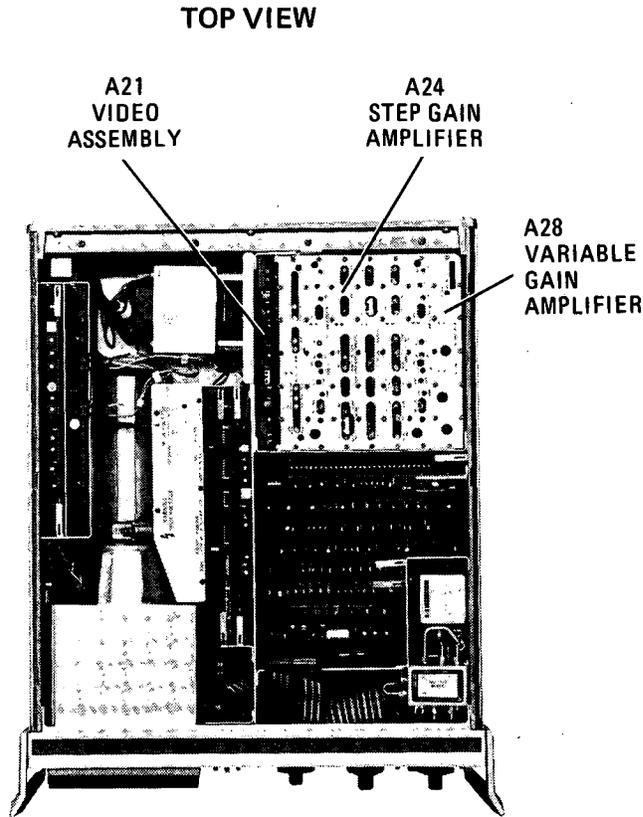

Figure 5-23. Step Gain Adjustment Locations
7. Adjust A24R6 - 12 dB (Figure 5-23) clockwise until trace stops rising. Then adjust A24R6 counterclockwise to set signal level 0.4 division below maximum.